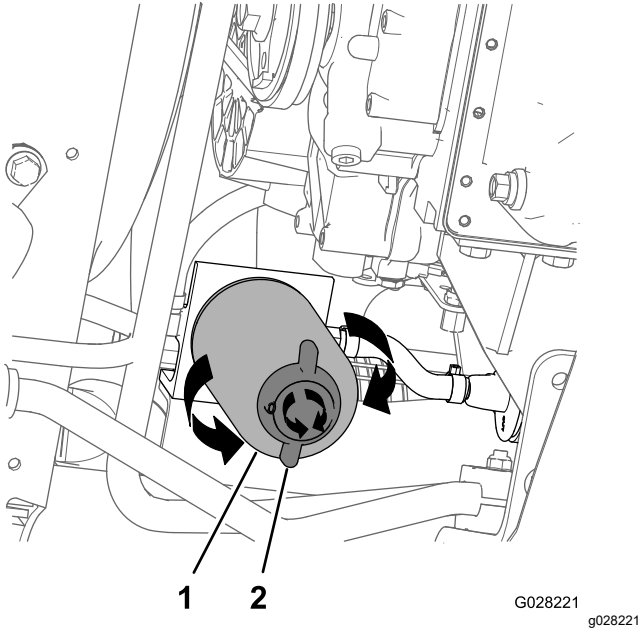

Figure 81
4. Align a drain pan under the fuel filter; refer to Figure 81 in Replacing the Water-Separator Filter \(page 62\).
2. Place a drain pan under the water-separator filter (Figure 81).
3. Rotate the drain valve at the bottom of the water-separator filter counterclockwise (Figure 81).
4. Clean the area around the water-separator filter and filter-adapter mount (Figure 81).
5. Remove the water-separator filter (Figure 81).
9. Ensure that the drain valve at the bottom of the water-separator filter is rotated clockwise tightly (Figure 81).